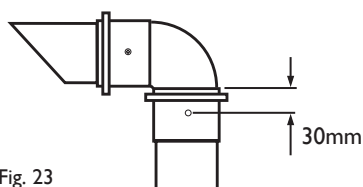

Fig. 23
13. Mark and drill the  $60\text{Ø}$  exhaust, using a 2mm bit, as shown in Fig. 23. Complete the installation of the  $60\text{Ø}$  exhaust, securing in the brackets.